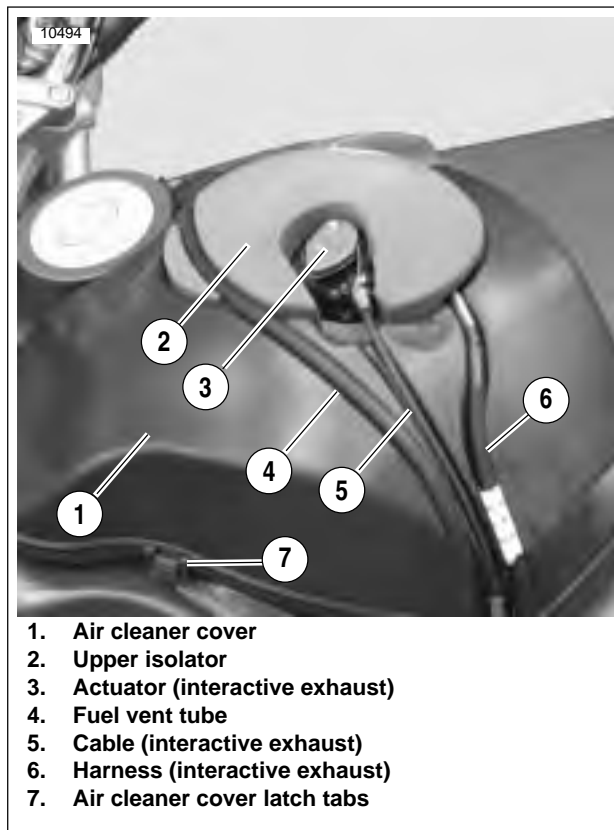
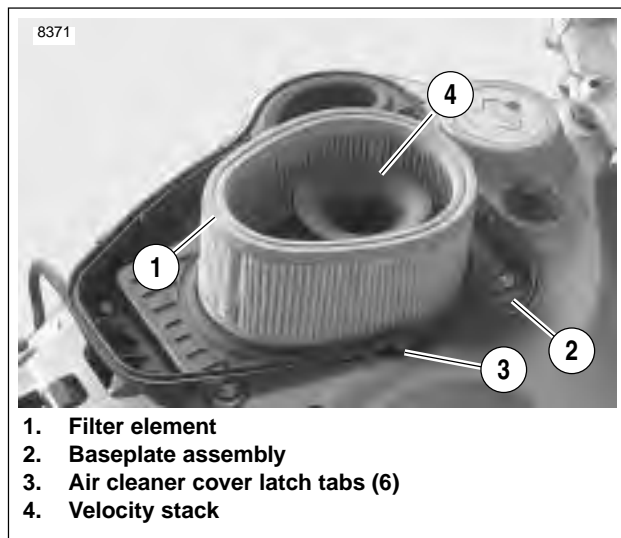

Figure 1-37. Air cleaner cover, Fuel Vent Tube and Fuel Vapor Valve (XB12)
Figure 1-39. Installed Air Cleaner Filter Element
3. See Figure 1-37. Remove fuel vent tube (4) from vapor valve at front of air cleaner cover and groove on top of air cleaner cover (1).
4. See Figure 1-37. Remove upper isolator (2) and actuator (3) along with cable (5) and harness (6) from top of air cleaner cover and lay to one side.
5. Unlatch six latching tabs (7) and remove air cleaner cover from baseplate.
6. See Figure 1-39. Remove the filter element (1) from baseplate (2). Inspect and replace if necessary.
See Figure 1-39. Cover the velocity stack so nothing can drop into the motor.
1. See Figure 1-39. Place filter element (1) on baseplate (2).
2. See Figure 1-37. Position air cleaner cover (1) over baseplate. Make sure air filter remains correctly positioned.
3. Install air cleaner cover by latching six latch tabs (4) to baseplate.
5. Position fuel vent tube (2) in groove on top of air cleaner cover and connect to fuel vent valve (3). Secure vent tube to vent valve with **new** cable strap.